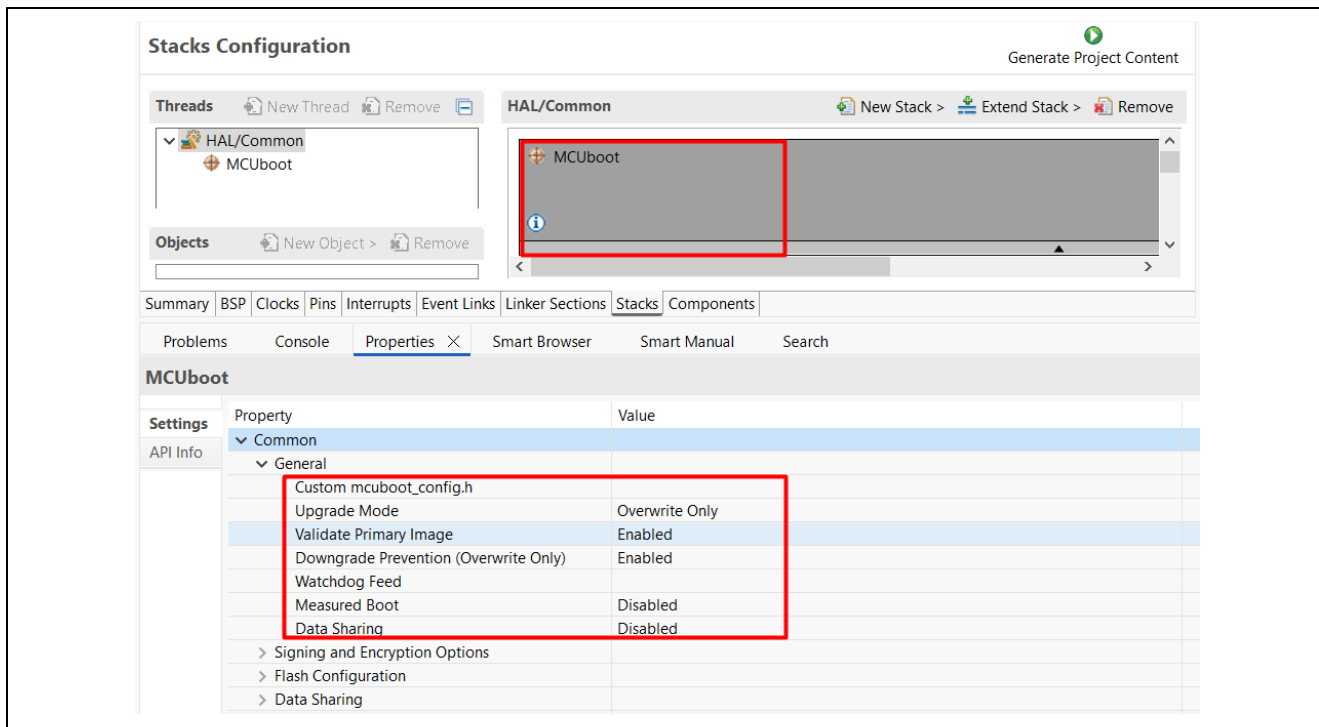

Figure 16. General Properties for MCUboot with Overwrite Upgrade Mode
- For project `ra_mcuboot_ra2e1_overwrite_mode`, use the settings in Figure 16.